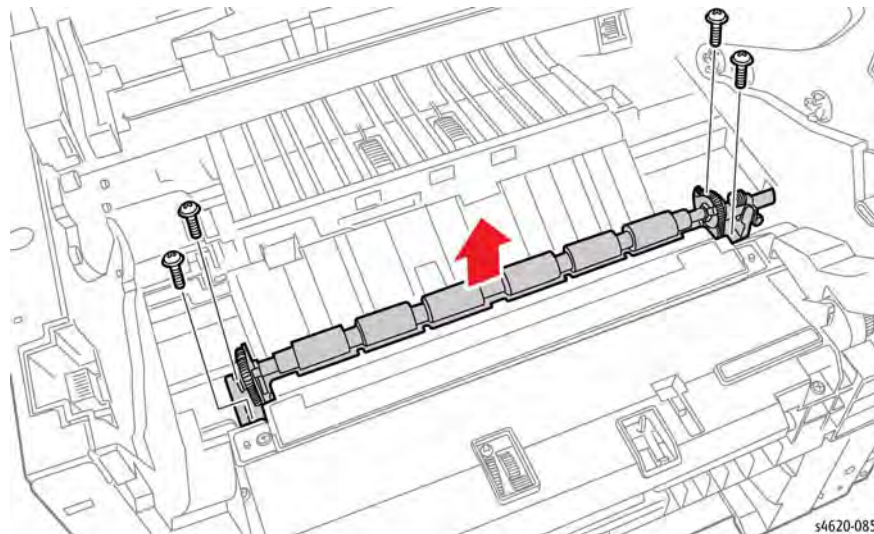

Figure 1 Remove the Registration Roller Assembly screws
9. Remove 4 screws (plastic) that secure the assembly to the frame, Figure 1, and one more screw behind the front door, REP 28.4.